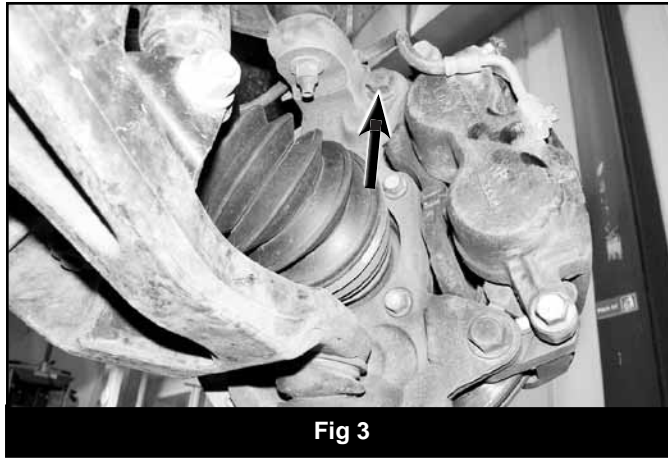

Fig 3
18. Remove the brake caliper anchor bracket bolts and pull the caliper free from the steering knuckle and rotor (Fig 3). Hang the caliper securely out of the way. Retain caliper mounting hardware. Remove the brake rotor from the hub. **Note:** Do not allow the brake caliper to hang from the brake hose.